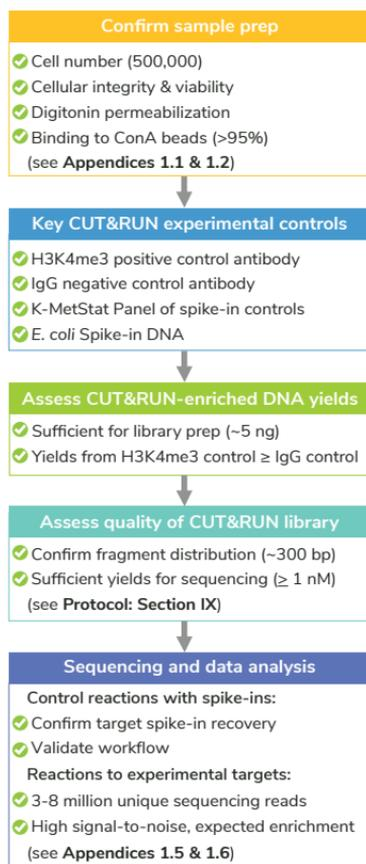

FIGURE 5
- The kit includes multiple quality control checks (**Figure 5**) for reliable CUT&RUN workflows.